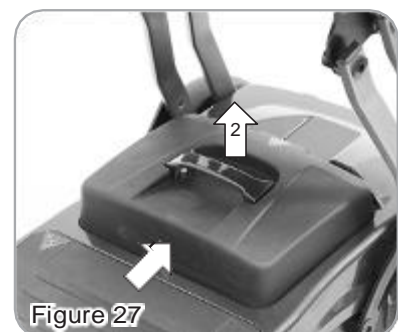

Figure 27
- The battery box is designed for a better stability. Please follow the instruction to disassemble the battery box (Figure 27) . Push the battery backwards (1.) and pull it upwards (2.).